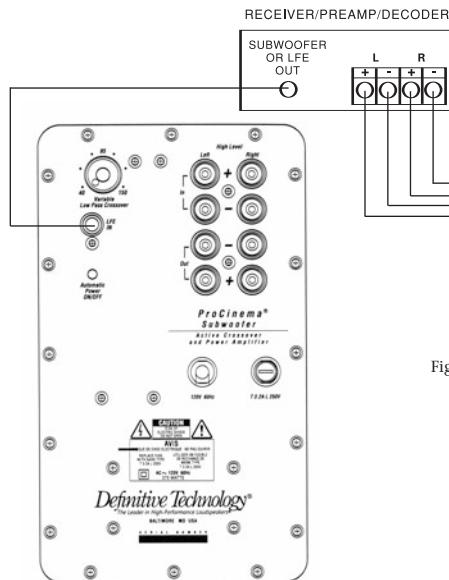

Figure 3
6. Connect a single RCA cable from the "SUB OUT" of your receiver to the LFE input of the subwoofer (not included). [Figure 3] This connecting method bypasses the subwoofer's internal "crossover" or low pass filter and relies on the crossover filter built into your receiver.